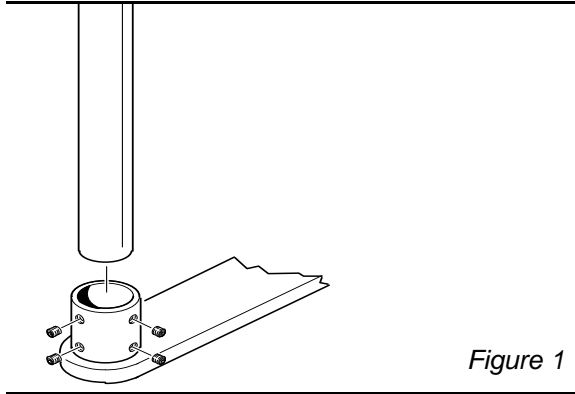

Figure 1
2. **Install the post on the chair mount bracket (*Figure 1*).**